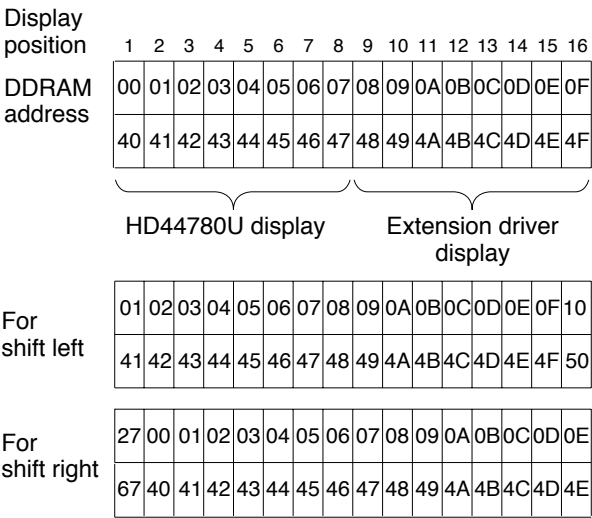

Figure 6 2-Line by 16-Character Display Example
- Case 2: For a 16-character × 2-line display, the HD44780 can be extended using one 40-output extension driver. See Figure 6.
- When display shift operation is performed, the DDRAM address shifts. See Figure 6.